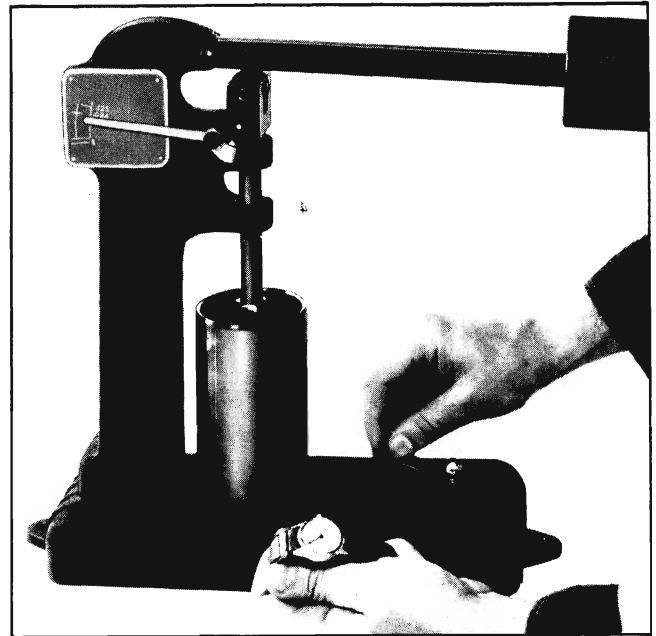

Fig. 6-89 Testing Leak Down Rate
After all lifters have been assembled, the leakdown rate must be checked before they are installed in the engine. Valve Lifter Leakdown Tester J-5790 (Fig. 6-89) is designed to test leakdown rate of lifters to determine whether or not they are within specified limits. As with previous service operations concerned with lifters, cleanliness is paramount. The tester cup, and ram should be thoroughly cleaned, and testing should be done in an area free of dust and dirt. The testing procedure is described in the following steps:
5. Raise weight arm to allow plunger spring to expand fully; lower arm onto ram and commence turning crank slowly (1 revolution every 2 seconds). Time indicator travel from lower line (first line above set line) to line marked .125 or $\frac{1}{8}$ ", while still rotating cup with crank (Fig. 6-89). Lifter is satisfactory if rate is between 12 and 60 seconds.